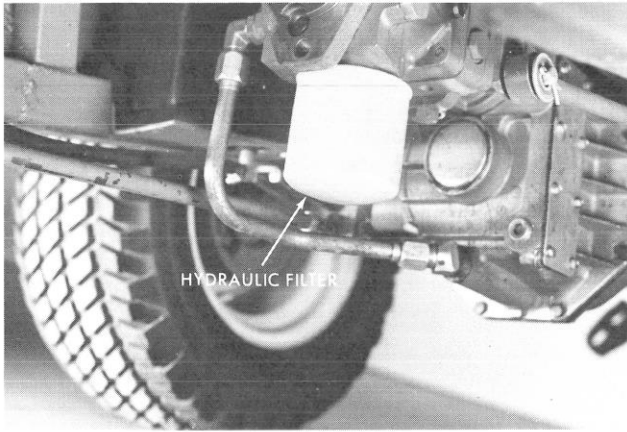

Figure 35
**Hydraulic Pump & Differential** — The hydraulic pump and differential assembly have a common oil supply. Change the hydraulic filter after the first 10 hours of operation. See Figure 35. Every 50 hours, place the unit on a level surface and check the oil level. Remove the filler cap dipstick assembly. The oil level should be up to the mark on the dipstick. If necessary, replenish with SAE 10W-40 Grade SE-SC oil.